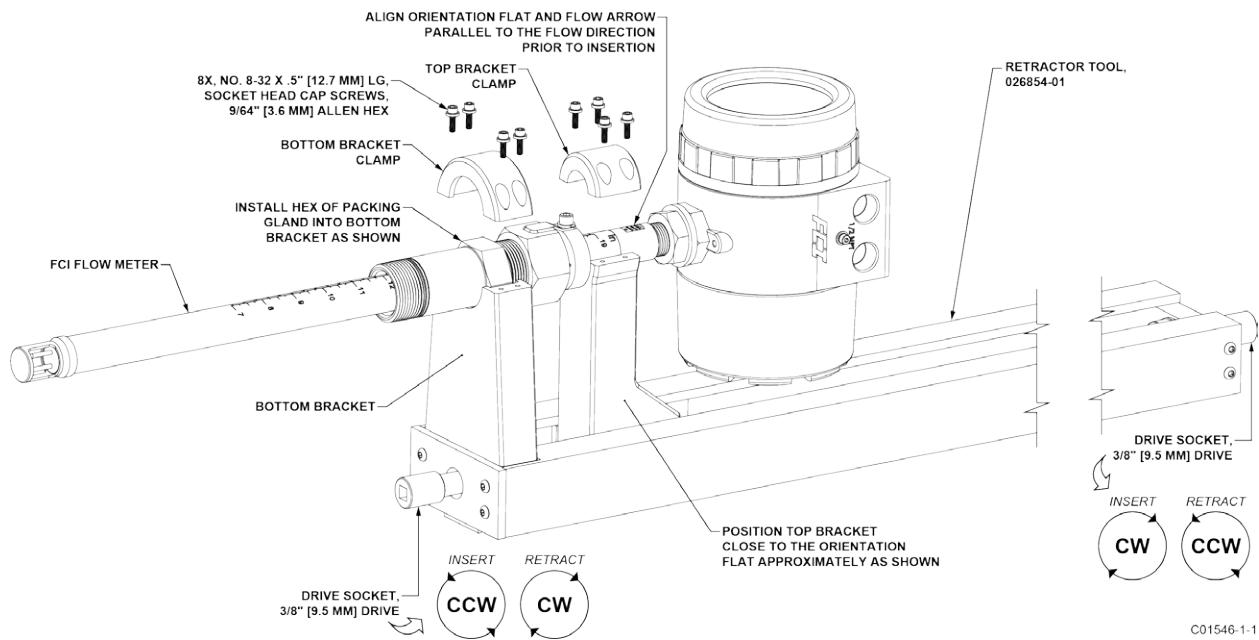

Figure 6 – Flow Element Installation Using FCI Retractor Tool 026854-01
- a. Place the flow element into the top and bottom brackets of the FCI retractor tool as shown in Figure 6.
- b. Align the orientation flat and flow arrow parallel to the flow direction. Position the top bracket close to the orientation flat as shown in Figure 6.
- c. Secure the top and bottom bracket clamps to the flow element using the eight no. 8-32 screws provided as shown in Figure 6. Torque these screws to 20 in-lbs [2 N-m] minimum.
- d. The retractor tool has, on both ends, a 3/8" drive socket that engages the retractor to move the flow element in or out. Once the flow element has been properly secured, open the ball valve and insert the flow element by using either a hand wrench or a drill to rotate either drive socket in the appropriate direction for **insertion** as shown in Figure 6. Observe the **Warning** below if using an electric drill. Insert the flow element up to the insertion depth mark and tighten the packing nut another $\frac{1}{2}$ to 1 turn tight (approximately 65 to 85 ft-lbs [88-115 N-m]) until the packing has created a full seal.
- d. The retrector tool has, on both ends, a 3/8" drive socket that engages the retrector to move the flow element in or out. Use a hand wrench or a drill to rotate either drive socket in the appropriate direction for **retraction** as shown in Figure 6. Observe the **Warning** below if using an electric drill. Retract the flow element until the sensor head has been fully retracted into the cavity of the packing gland.